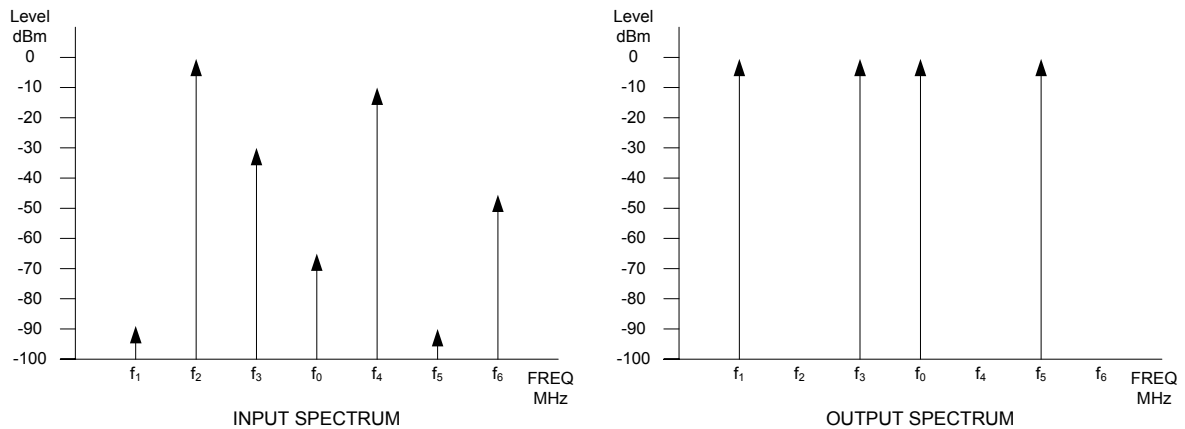

Figure 2: 4-channels Integrated System Input and Output Spectrum
The **M4-ChOLC** modules reduce high power carriers that can saturate the BDAs and create Intermodulation (IM) Products in the system. On the other hand, the **M4-ChOLC** modules boost up weak carriers that would be otherwise lost in a broadband BDA system. See next Figure 2.
Figure 2 shows, as example, the operation of an integrated system with only four **M4-ChOLCs** programmed on F1, F3, F0 and F5 frequencies. The signals on F2, F4 and F6 are filtered out, since there are no **M4-ChOLCs** tuned to them.